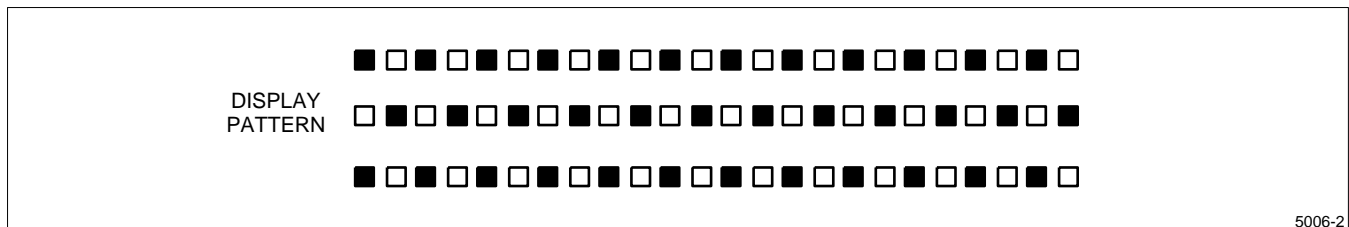

Figure 3. Display High Frequency Pattern
- Display high frequency pattern:  $V_{DD} - V_{SS} = 3.3\text{ V}$ ,  $V_{DD} - V_{EE} = 23.9\text{ V}$ , frame frequency = 85 Hz, display pattern = 1-bit checker (Figure 3).